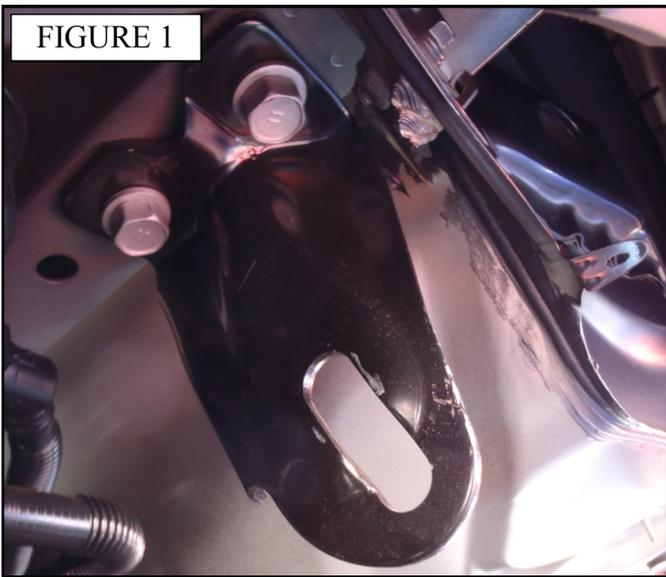

FIGURE 1
2. Locate the driver side rear factory tow loop. Remove the tow loop by removing the two original 17mm hex cap screws. This will not be re-installed. Figure 1